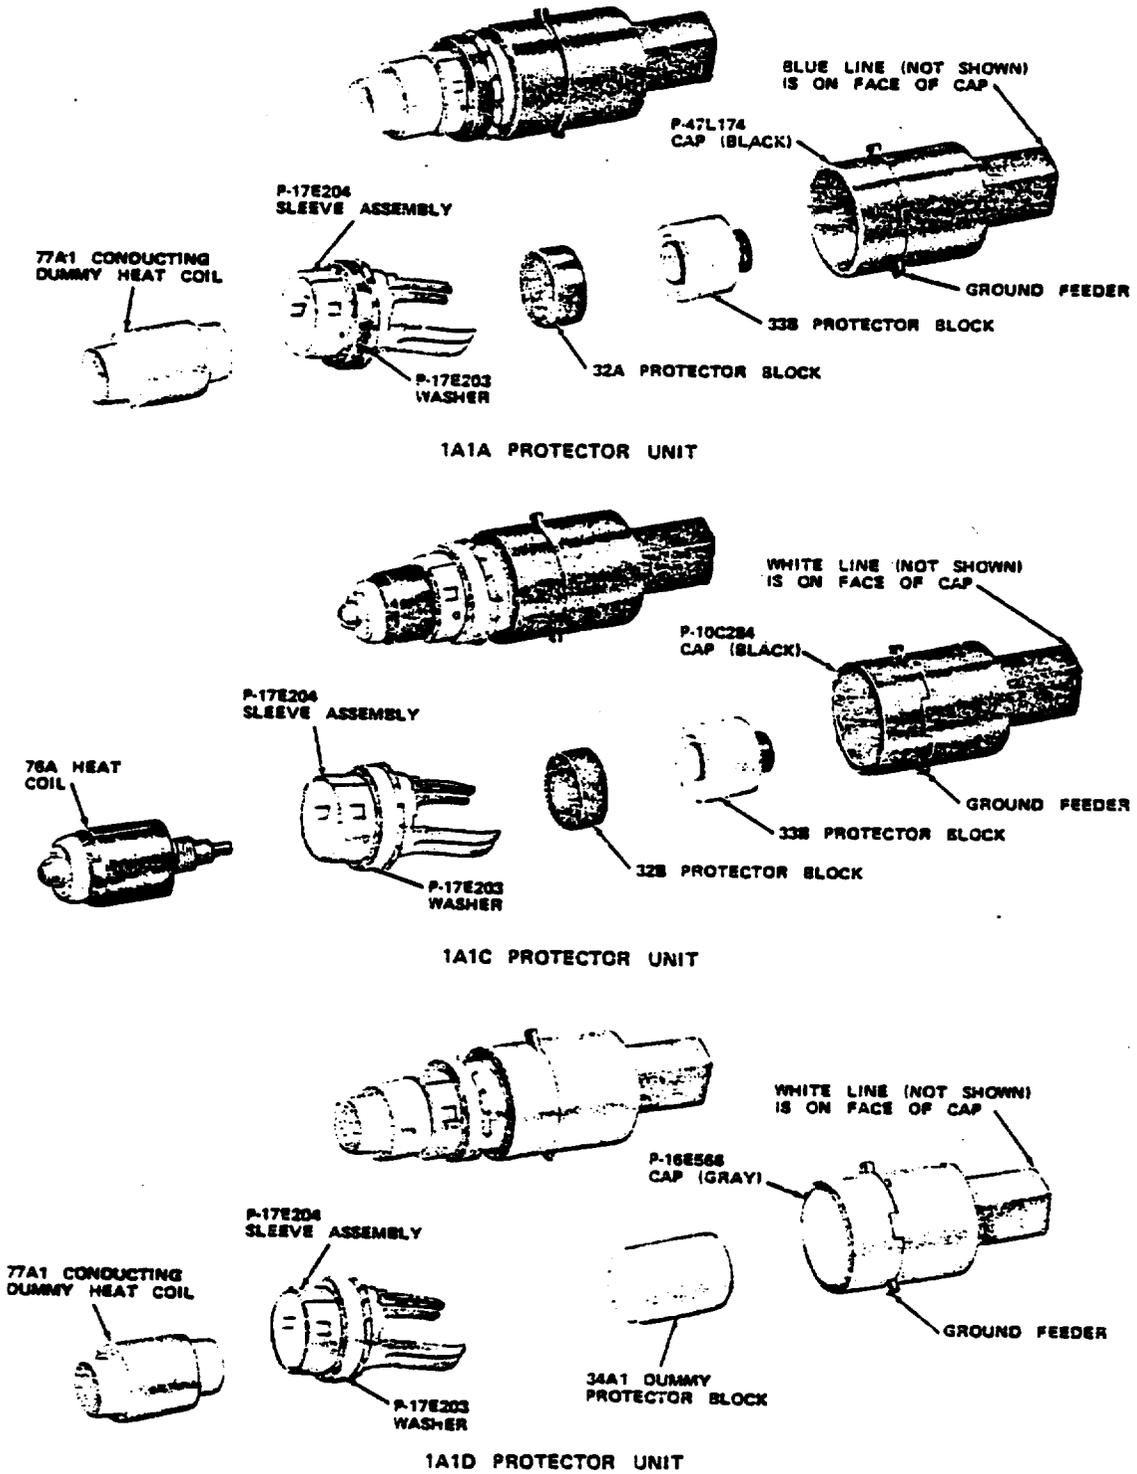

Fig. 6—1A1A, 1A1C, 1A1D Protector Unit Assemblies
IS ASSEMBLED ON THE ASSOCIATED PROTECTOR UNIT. (SEE FIG. 6)
4.05 Disassemble the protector unit by holding the cap in one hand and the sleeve (Fig. 6) with the other hand. Withdraw the sleeve (containing the heat coil and protector blocks) from the cap.
5.01 Place the protector blocks in the sleeve of the protector unit (Fig. 6) before the heat coil is installed.